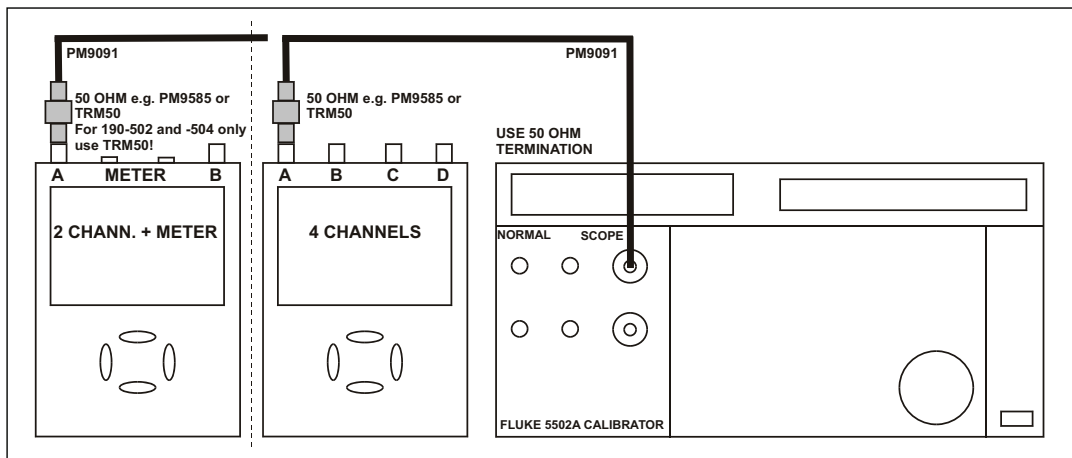

Figure 4-11. Test Tool Input A to TV Signal Generator
1. Connect the Test Tool to the calibrator as shown in Figure 4-11.